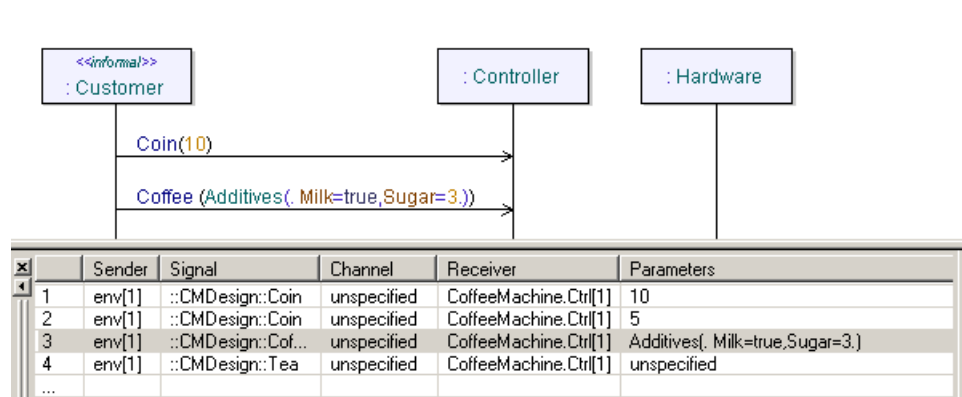

Figure 25: Sequence diagram and Messages window with parameter of type Additives
11. You will also have to update the sequence diagrams to allow for the new parameter. See Figure 25 on page 49. Observe the type qualifier before the parameter. You will have to supply the complete class with the type qualifier in the parameter field of the Messages window (Additives (.Milk=true, Sugar=3.)). It is possible to copy and paste the class with parameters from a **Watch** window by using **Deep Copy** on the shortcut menu and then paste in the **Parameters** field with CTRL + V.